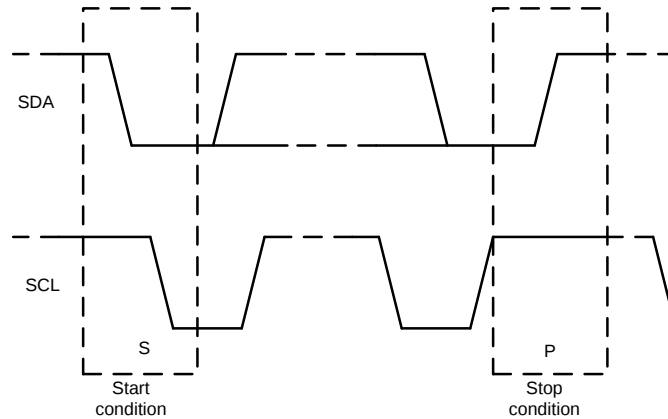

图 7. Start and Stop Conditions
1. The master initiates data transfer by generating a start condition. The start condition is when a high to-low transition occurs on the SDA line while SCL is high, as shown in 图 7. All I²C-compatible devices recognize a start condition.
4. To signal the end of the data transfer, the master generates a stop condition by pulling the SDA line from low to high while the SCL line is high (see 图 7). This action releases the bus and stops the communication link with the addressed slave. All I²C-compatible devices recognize the stop condition. Upon receipt of a stop condition, the bus is released, and all slave devices then wait for a start condition followed by a matching address.